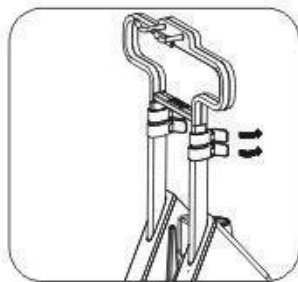

Fig. 4
- Fig 4: To adjust the length of the telescopic tube, open the telescopic pole clips.